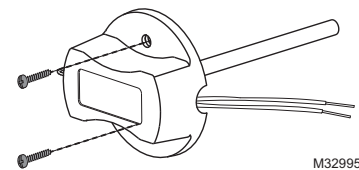

Fig. 8. Mounting Discharge Air Sensor.
2. Drill 1/4-inch hole for the sensor probe and mount it to the ductwork with enclosed screws (see Fig. 8).